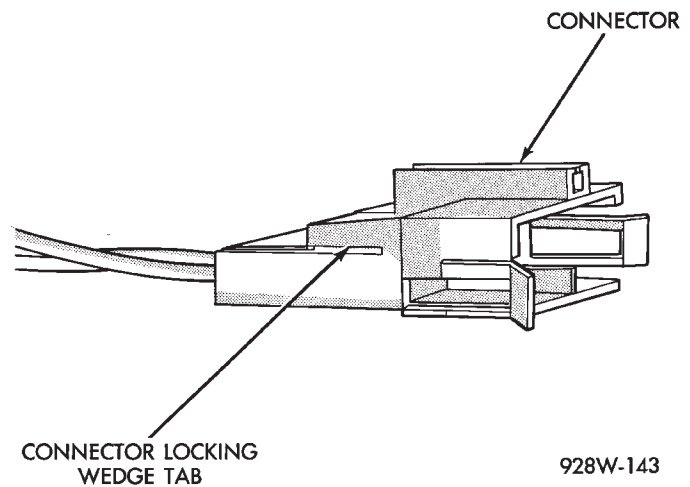

Fig. 19 Connector Locking Wedge Tab (Typical)
(1) Disconnect battery.
(2) Disconnect the connector being repaired from its mating half. Remove connector locking wedge, if required (Fig. 19).
(3) Remove connector locking wedge, if required (Fig. 19).